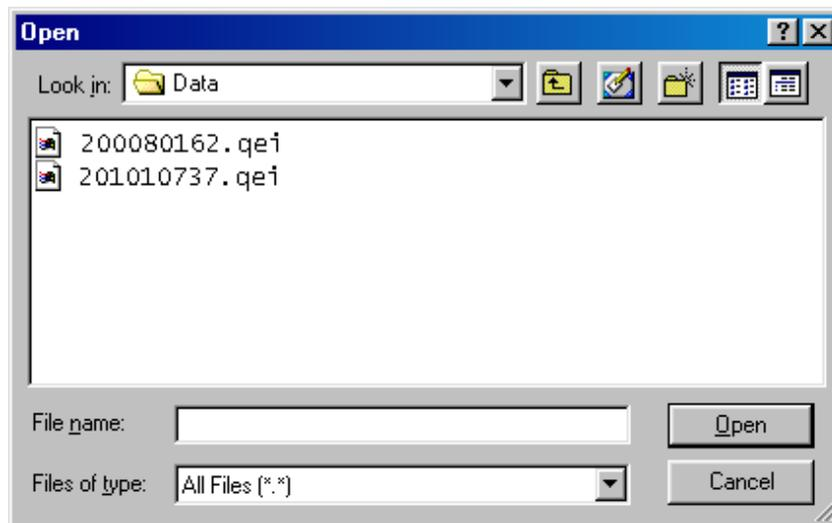

Figure B1 - File Open Dialog
- A standard Windows® file open dialog, shown in Figure B1, will be displayed. Find the file in the dialog box listing and click on the filename. The filename should then be displayed in the **File name:** edit box at the bottom of the dialog. Click the **Open** button to complete the process.